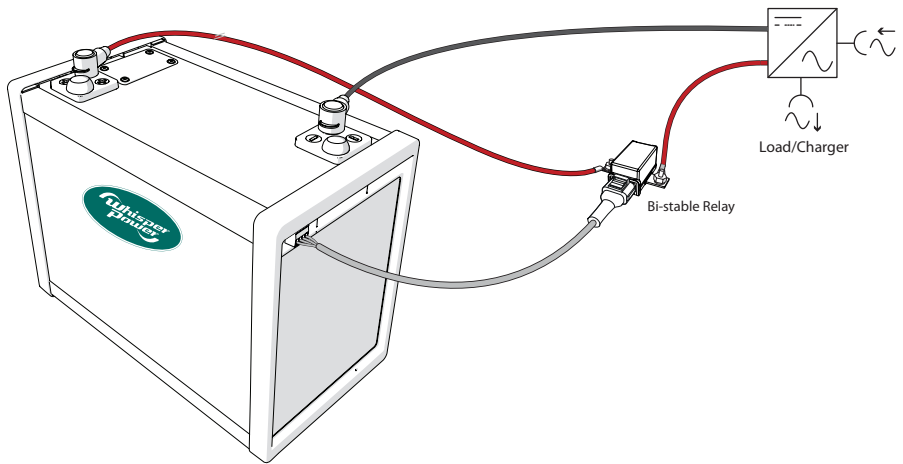

Figure 6. Connect a bi-stable relay as Battery Disconnect device
1. When using a bi-stable relay connect it to Con1 output as displayed in Figure 6. The Con1 output controls both the ON coil and the OFF coil of the bi-stable relay. The output of Con1 can be found in Table 9.